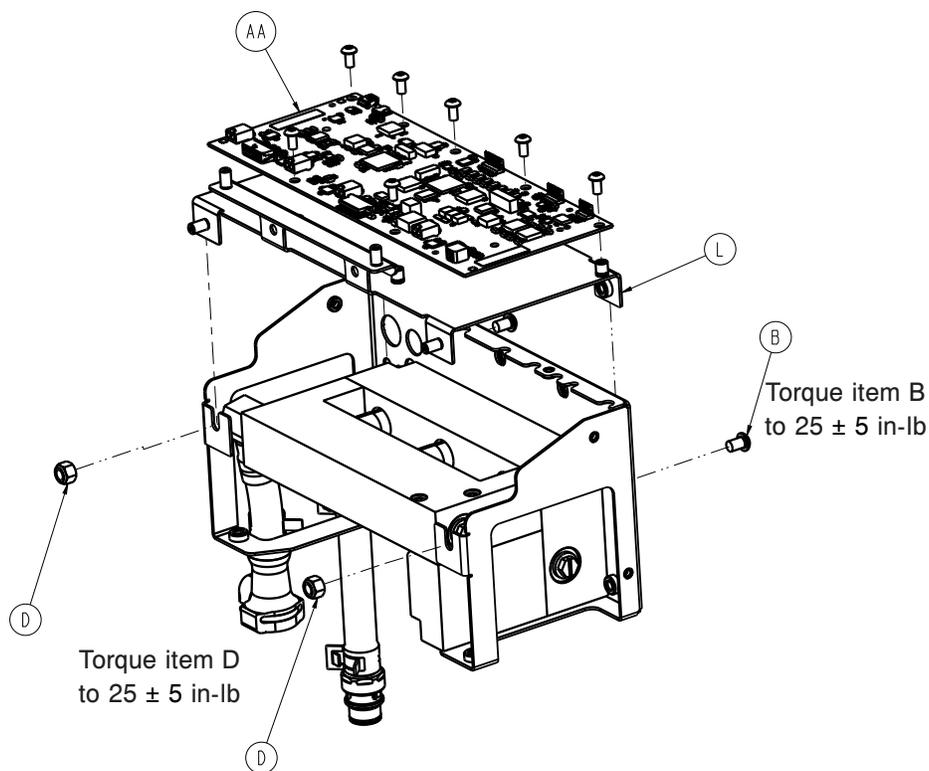

Figure 43 – MCB bracket
15. Using a T27 Torx driver, remove the two screws (B) (Figure 43) that secure the MCB bracket to the control assembly bracket. Save the screws.